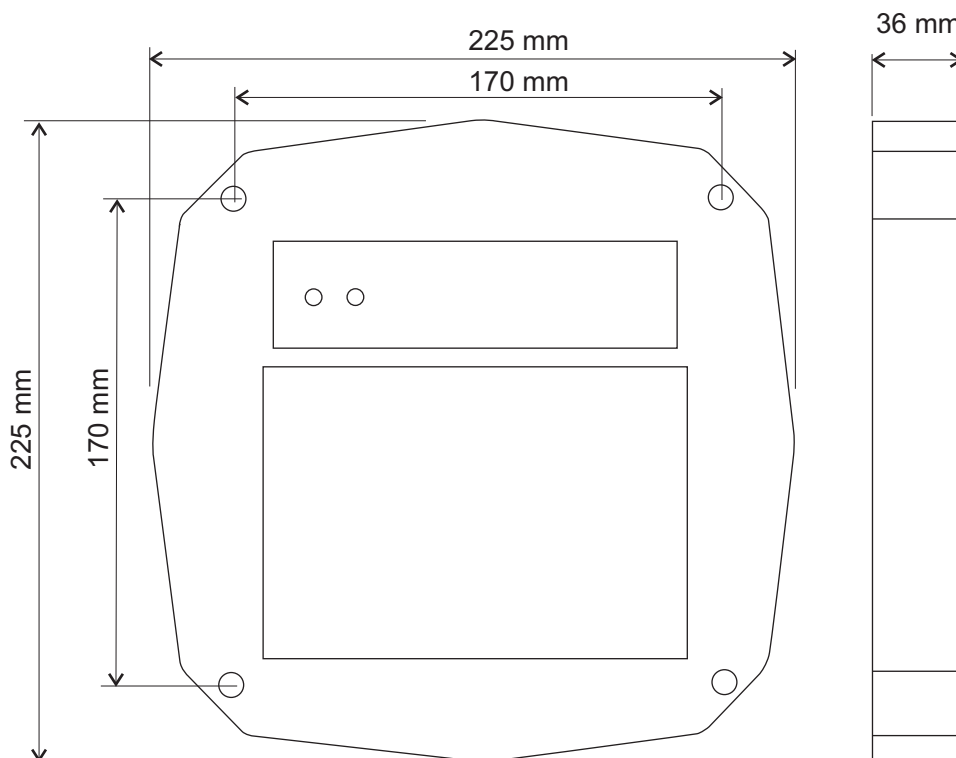

Figure 1. Dimensions.
- Mark and drill the mounting holes of the same size as the holes in the reader casing; (Figure 1);